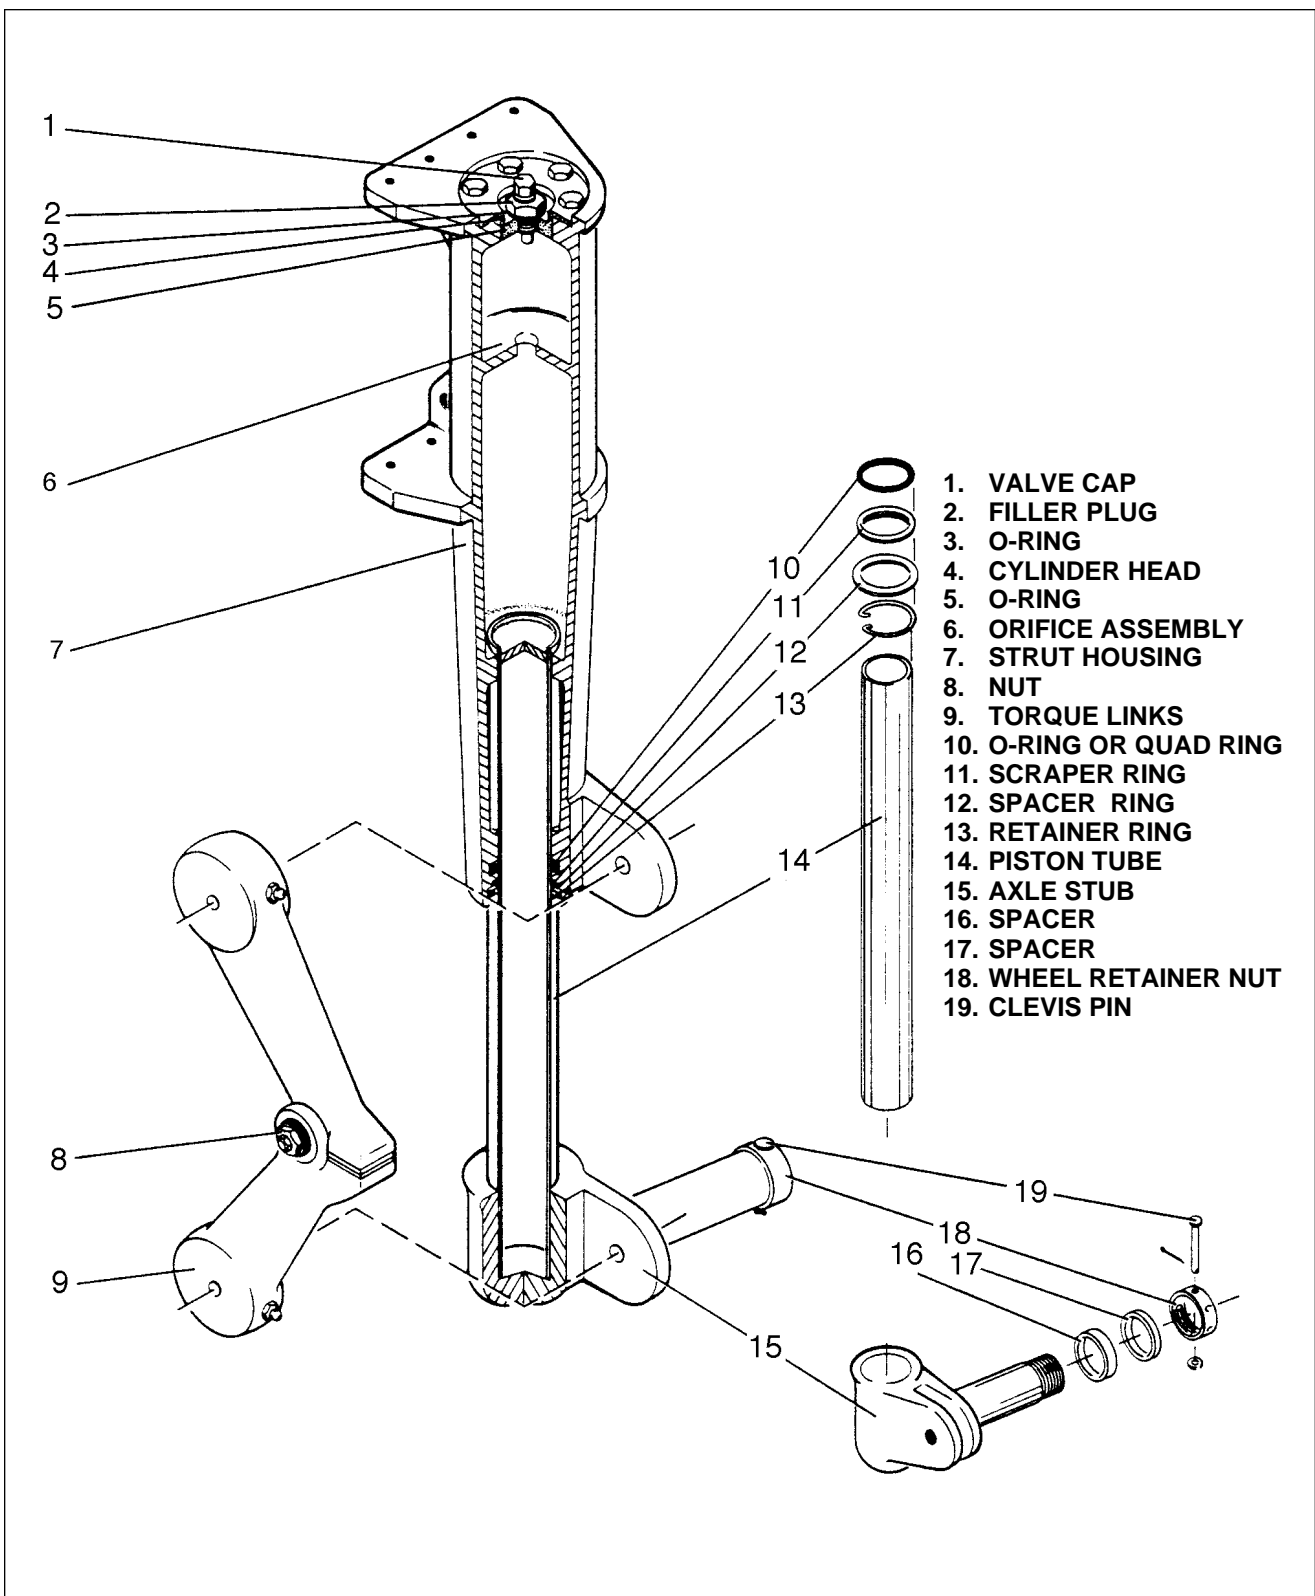

Figure 7-5. Main Gear Oleo Strut Assembly
7-14. DISASSEMBLY OF MAIN GEAR OLEO. (Refer to Figure 7-5.) The main gear axle (19) and piston tube assembly (18) may be removed from the cylinder housing (7) with the gear removed from or installed on the airplane.
- 4. The scraper ring (15) is located inside the lower end of the cylinder housing may be removed by first removing the retainer ring (17), spacer ring (16) and then the scraper ring.
- 5. The O-ring seal (14) located just before the scraper ring may be removed by using a curved wire or spoon shaped tool and inserting it under the ring.
- d. The cylinder head, may be removed cutting the wire and removing the bolts that secure the cylinder head (4) in the top of the housing. Remove the assembly from the housing.
## 7-16. ASSEMBLY OF MAIN GEAR OLEO. (Refer to Figure 7-5.)